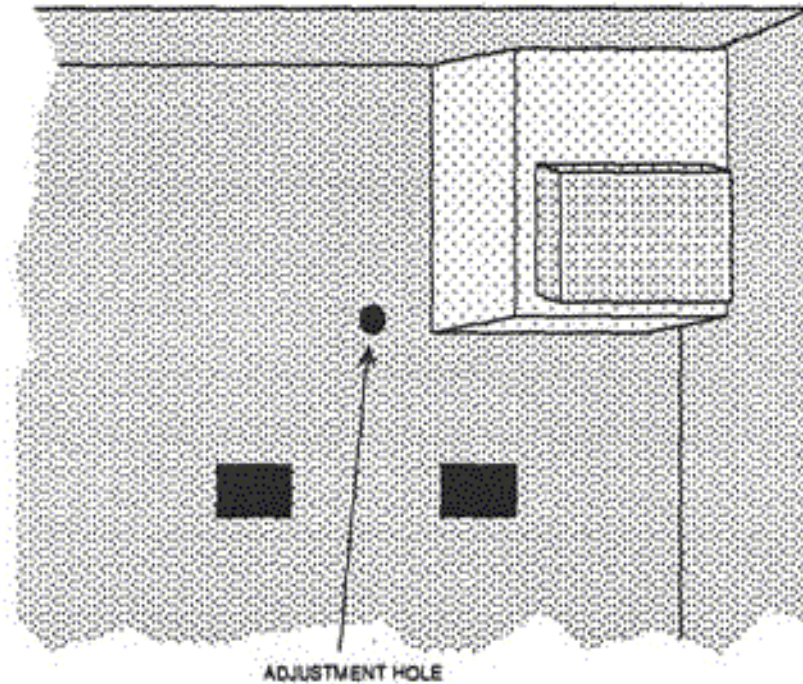

Figure 33
22. Boot MacWorks or MacWorks Plus. Measure the screen size. Don't be surprised if you have to turn both controls fully counterclockwise (to approximately 8 o'clock). The final raster should measure exactly 8.44 inches in width and 5.99 inches in height. If it's substantially larger than that, shut down the Lisa/XL and remove the power cord. Pull the card cage, observe the metal chassis and find the L3 (coarse width) access hole. As shown in Figure 33, L3 is located below the alignment pots and has to be tuned from the back side of the board. Insert a plastic hexagonal alignment tool through the access hole and turn L3 counterclockwise (in), one full turn. That should do it. Reinstall the card cage, reboot, and repeat the HEIGHT and WIDTH adjustments for best linearity.